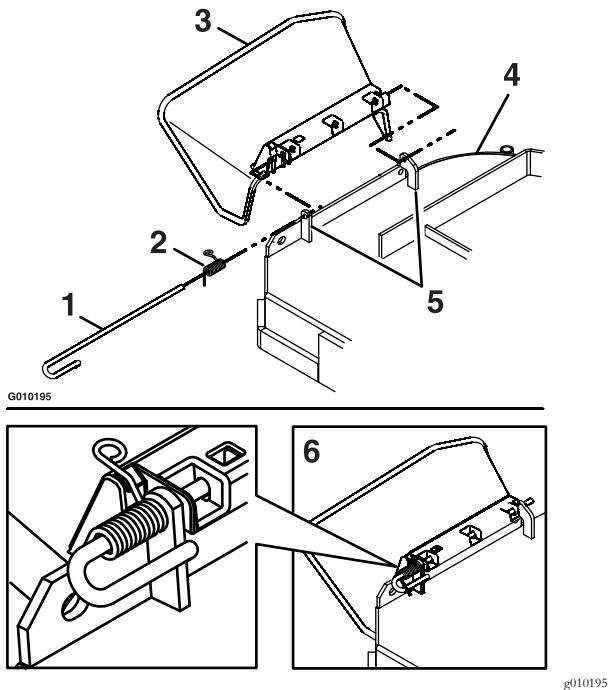

Figure 9
2. To install new discharge deflector, orient the spring on the rod as shown in Figure 9. Slide the rod through the front discharge deflector bracket, discharge deflector, and rear deflector bracket.
3. Hook the bent end of the rod around the front discharge deflector bracket to retain it from sliding out. Place the leg of the spring with the loop in the notch in the discharge deflector to hold the discharge deflector in the down position (see Figure 9).